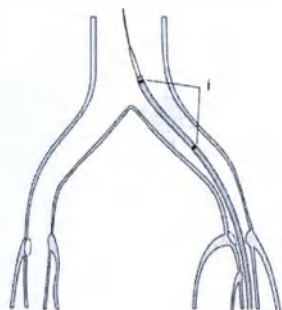

Fig. 4
8. Pull back on the stent delivery system under fluoroscopy until the radiopaque markers on the stent (i) are at the desired position. The stent is now ready to be deployed. (**Fig. 4**)